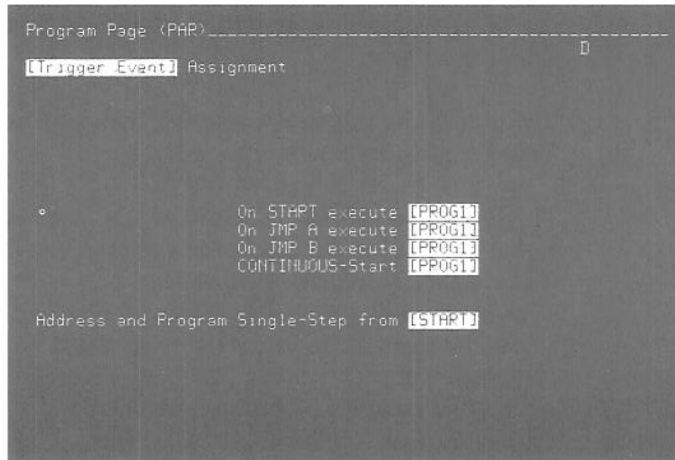

Figure 3D-19. [Trigger Event] Assignment Menu
**[Trigger Event] Assignment menu** (Refer to Figure 3D-19)